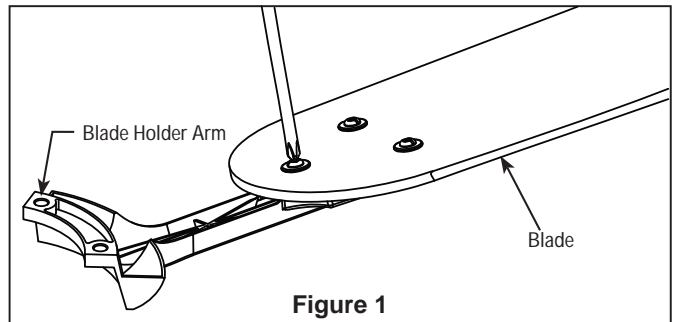

Figure 1
1. Remove one of the two shoulder screws in the hanger bracket. Loosen the second shoulder screw without fully removing it. Assemble canopy by rotating key slot in canopy over shoulder screw in hanger bracket. Tighten shoulder screw. Fully assemble and tighten second shoulder screw that was previously removed (Figure 1).
1. Position the blade over the blade holder with threaded posts showing. Make sure the bottom edge of the blade is fully seated against the blade arm. With a phillips screwdriver, tighten 3/16"-24 washer head screws and fiber washers to secure the blade to the blade arm. (Figure 1)